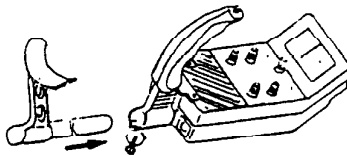

Figure 5
8. To insert the arm support (see Figure 5), loosen the knob at the base of the handle. Insert the arm support and tighten the knob to hold the arm support in place.